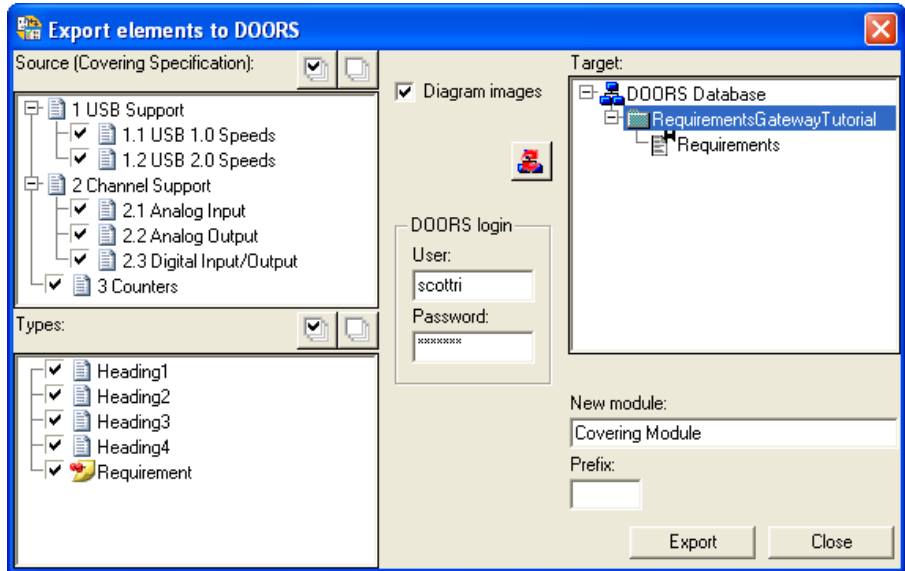

Figure 11-5. Export Elements to DOORS Dialog Box
4. Enter `Covering` Module in the New module control as shown in Figure 11-5.